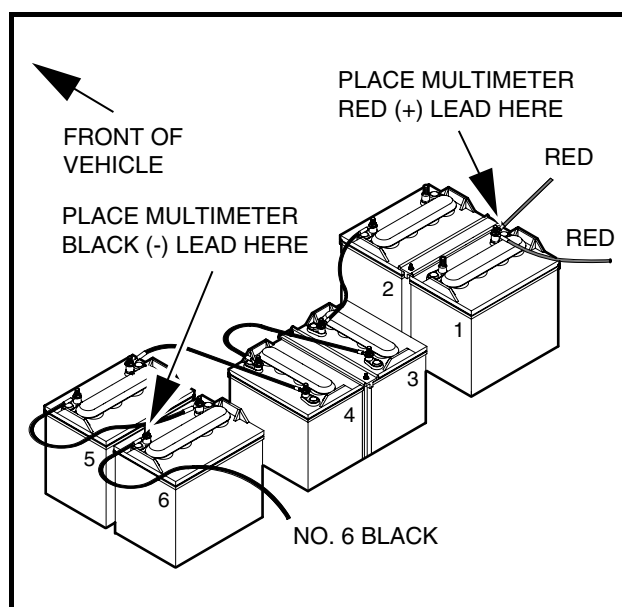

Figure 14-10 Battery Pack
- 3.1. Verify the 10 gauge red wire from the charger receptacle is connected to the positive post of battery No. 1 (**Figure 14-10, Page 14-13**).
4. With multimeter set to 200 volts DC, measure the voltage of the battery pack between the positive post of battery No. 1 and the negative post of battery No. 6 (**Figure 14-10, Page 14-13**). Normal no-load voltage will be 50 to 52 volts for fully charged batteries. The voltage of the battery pack must be over 32 volts DC in order to allow the onboard computer to close the charger relay. If battery pack voltage is too low to start charger, **see Section 13–Batteries, Charging Battery Pack With Low Voltage**.